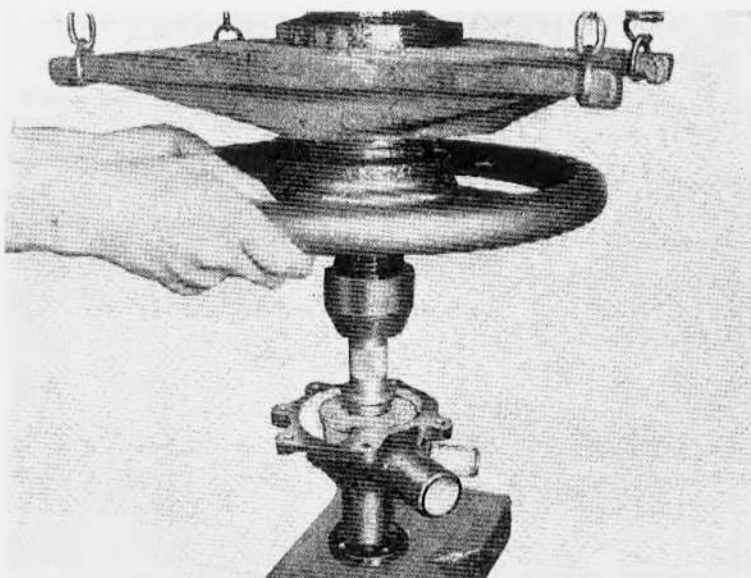

Figure 165 – Installing Rotor and Seal Assembly onto Shaft
(2) Install pump bearing assembly into pump body bearing bore applying pressure to outer race until it bottoms.
(3) Press shaft and bearing retaining wire into pump body using pliers.
(4) Assemble seal spring, spring seat, seal rubber and thrust washer into pump rotor. Thrust washer is installed on the top of seal assembly so that two lugs index with slots in the thrust washer guide pipe.
(5) Lay the rotor and seal assembly onto the shaft until the rotor and seal assembly is flush with end of shaft (Fig. 165).